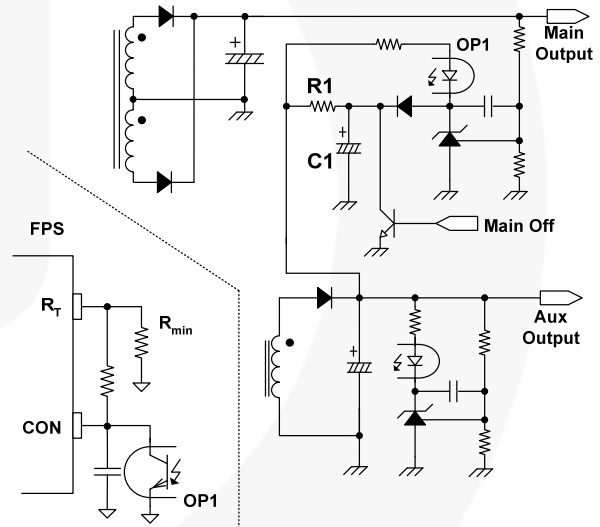

Figure 23. Remote On / Off Circuit
**Remote On / Off:** When an auxiliary power supply is used for standby, the main power stage using FSFR2100 can be shut down by pulling down the control pin voltage, as shown in Figure 23. R1 and C1 are used to ensure soft-start when switching resumes.